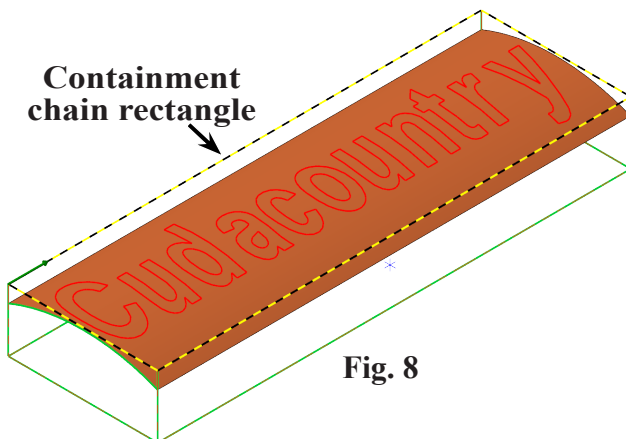

Fig. 8
Step 7. Click a **line of top rectangle** to chain the top rectangle, **Fig. 8**. Click the OK button  in the Chaining dialog box.
Step 7. Click a **line of top rectangle** to chain the top rectangle, Fig. 8. Click the OK button  in the Chaining dialog box.